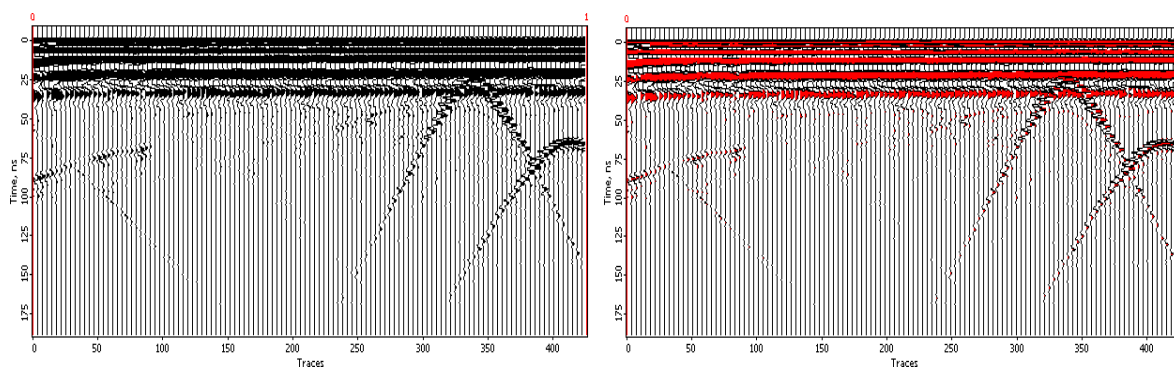

Fig. 4.2. Wiggle plot profile display example (black-and-white and color scales).
3. **Profile:** A set of samples comprising two-dimensional information about reflected signals generated while passing a survey line. A profile may contain any quantity of traces. Profile examples in various types of display are shown in Figs. 4.2 and 4.3. The final result of sounding shall be a profile (or a certain number of profiles) as a file (or files). Subsequent steps will be data processing (if required), printout (if required) and interpretation.
5. **Wiggle plot:** Way of profile display where traces are running vertically with some spacing between them. Drawing of each trace is made by a curve deviating to the right or to the left from the trace centerline, depending on the sample value in each point of the trace. Here, positive half-waves are painted in the color corresponding to the maximum positive level of the color scale selected. Examples of wave profile are shown in Fig. 4.2.